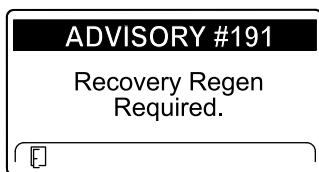

Figure 51
- Recovery regeneration required—power takeoff disabled ADVISORY #190 (Figure 51)